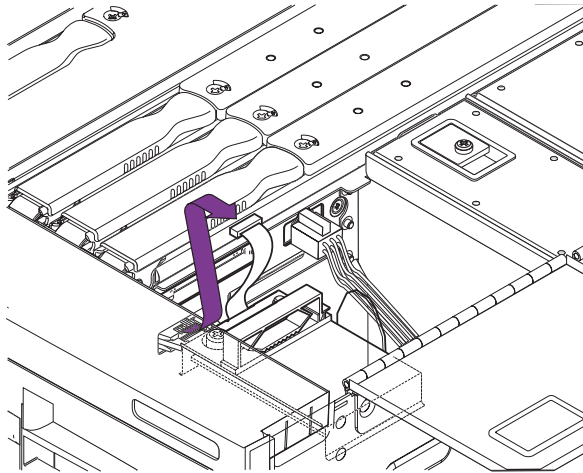

FIGURE 6-19 Disconnecting the SCC Reader Cable
9. **Disconnect the SCC reader cable from the IB_SSC board (FIGURE 6-19).**
3. Connect the SCC reader cable (FIGURE 6-19) to the IB_SSC board.